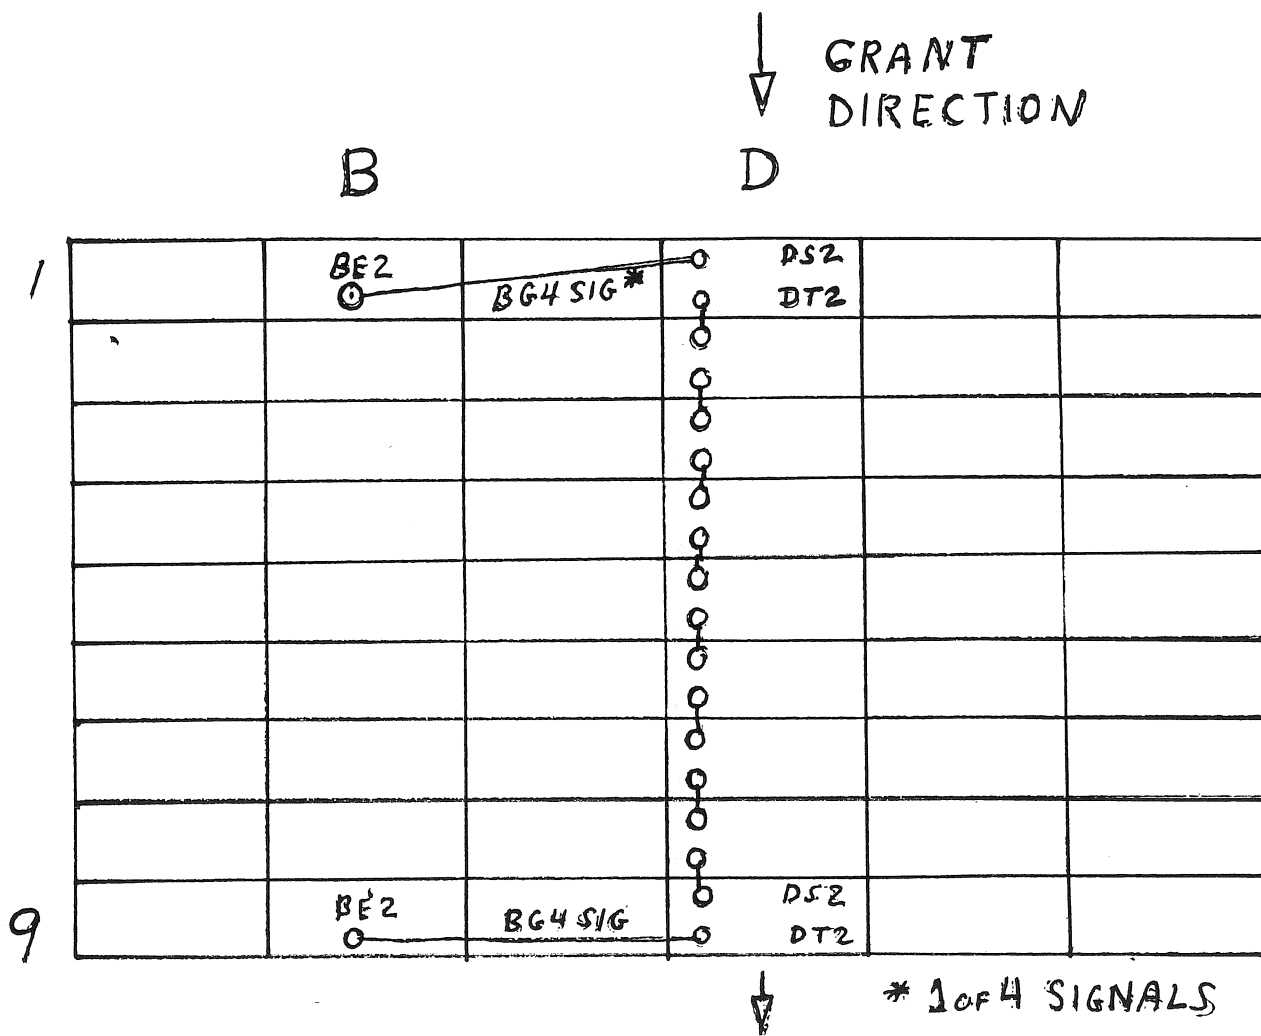

FIGURE 2-6
2.1.2.4 Bus Grant (BG) Line - Bus Grant continuity cards are required in all slots that do not contain modules. These cards permit the Grant signal to be passed from module to module (see Figure 2-6).